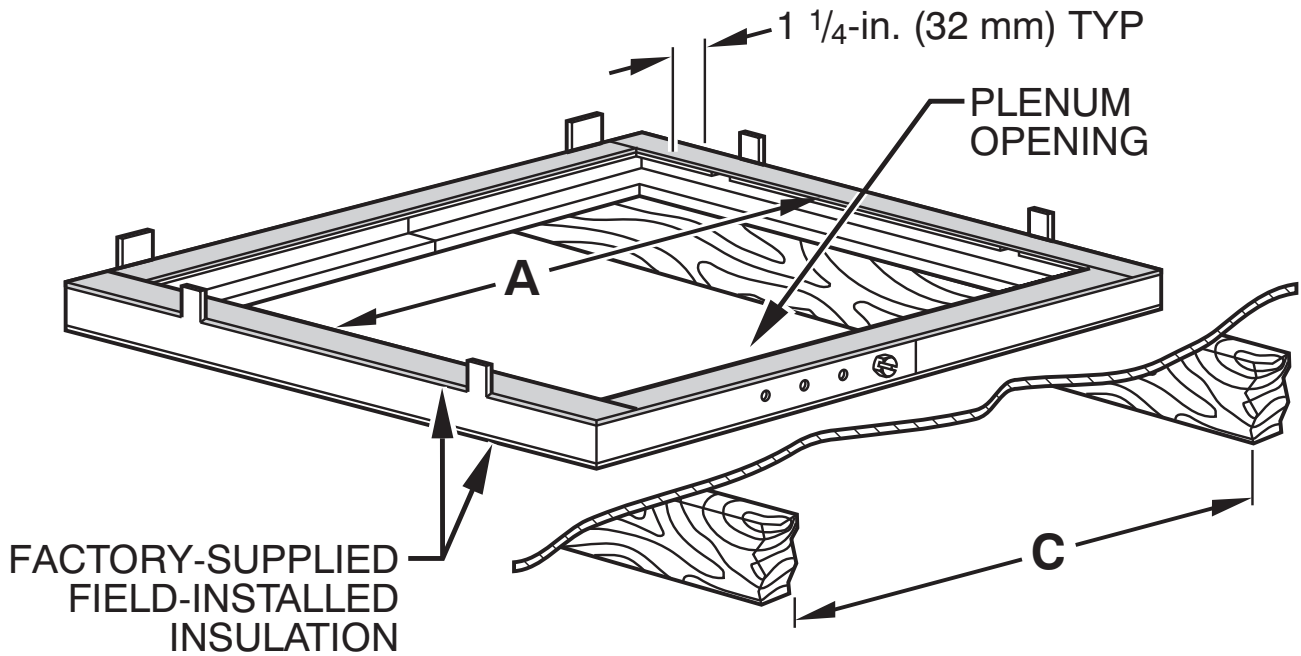

Fig. 3 - Installed Floor Subbase
3. Install factory-supplied strips of insulation on top and bottom sides of adjustable rails. (See Fig. 3)
- e. Apply strips of insulation to adhesive tape. Insulation must be properly installed to ensure an adequate seal and prevent air leakage between floor and base, and base and plenum. (See Fig 3.)